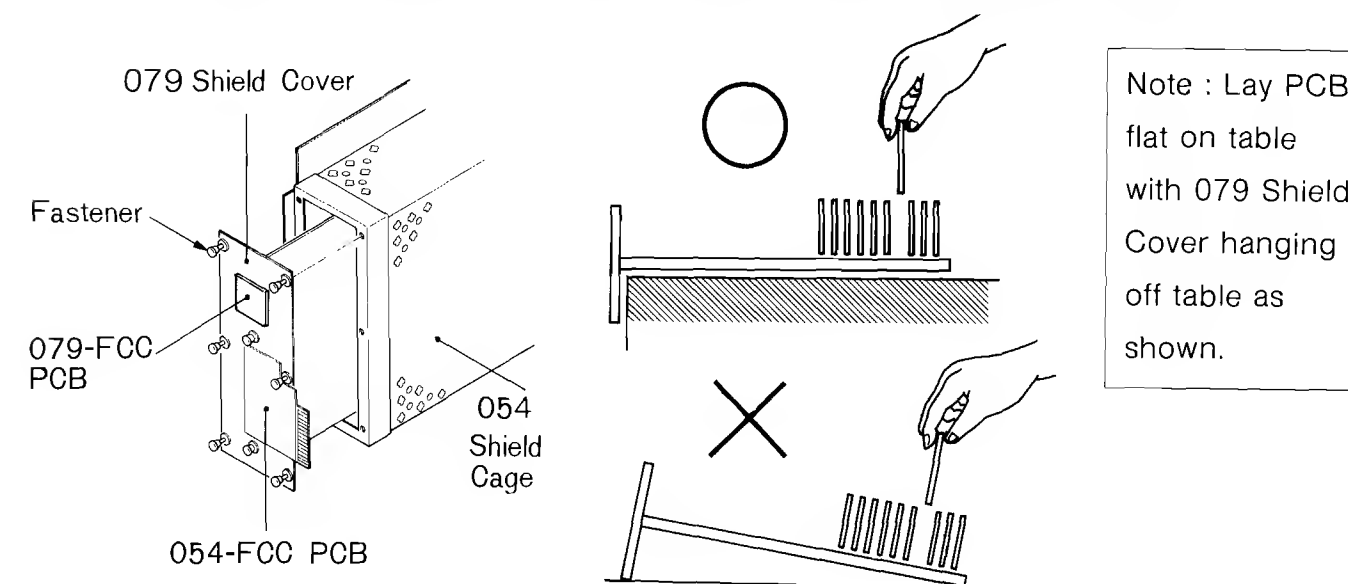

Fig. 15 Game PCB Removal and ROM PCB Exchange
- Pull out 6 Fasteners located on perimeter of the 079 Shield Cover. See Fig. 15.
- After servicing the Game PCB, shut the 079 Shield Cover completely with the Fasteners. See Fig. 15.